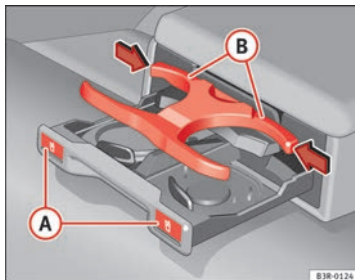

Fig. 121 Drink holder in the rear armrest
- Press the symbol  (A) ⇒ fig. 121.